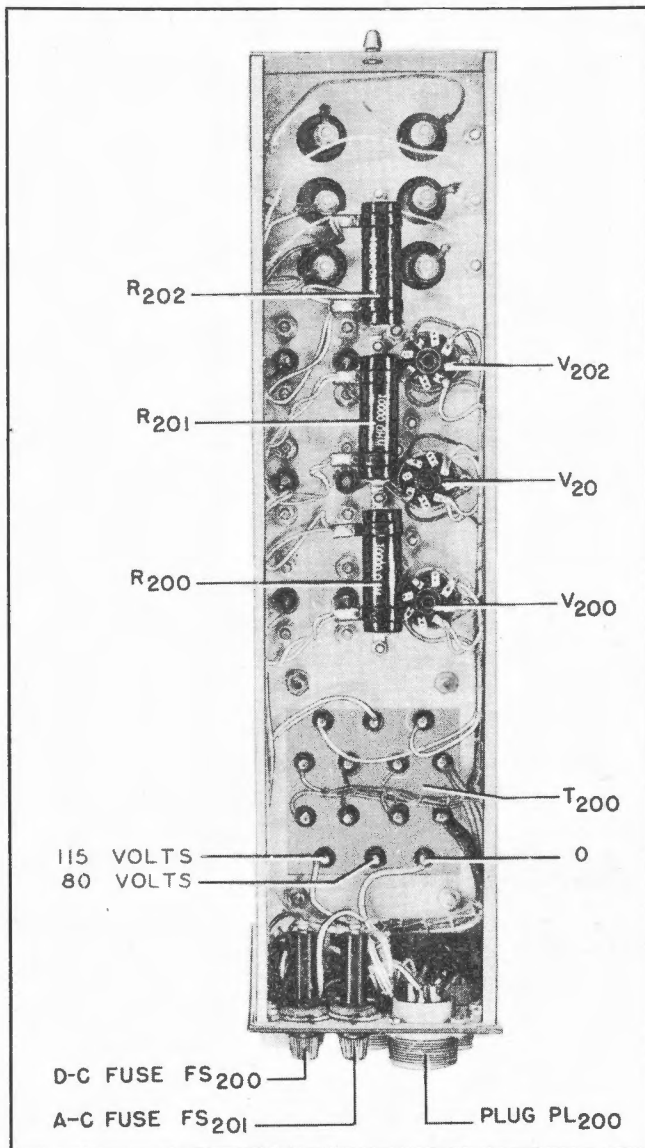

Figure 2-1—Rectifier Power Unit PP-32/AR—Showing 115-Volt and 80-Volt Connections
2. Check the power transformer T_{200} to see that it is wired for the supply voltage that is to be used. (See figure 2-1.) If it is not wired correctly make the proper change.